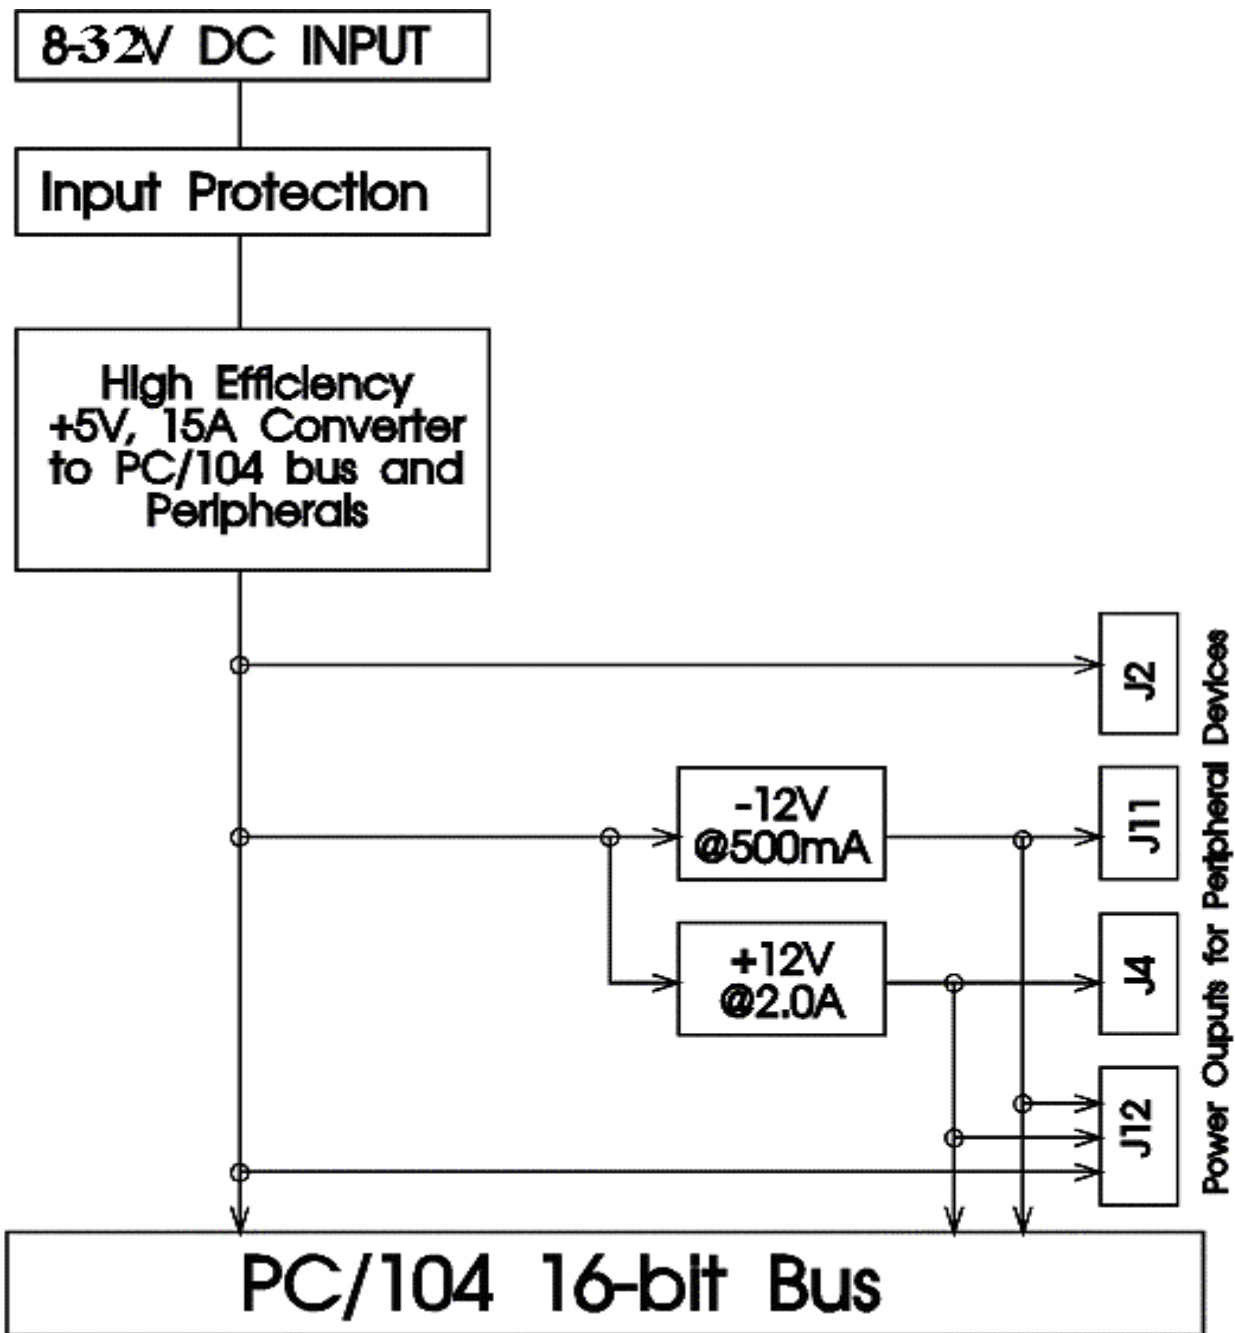

Fig. 3-1 Block diagram of the HPWR104HR
- Fig. 3-1: HPWR104HR Block diagram**